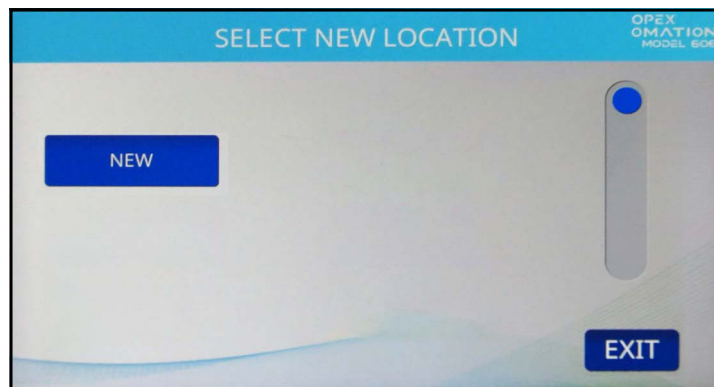

Figure 6-36: Select New Location screen
3. Once you have named the User and pressed the Return key, you will be prompted to pick a location for the new User (Figure 6-36).